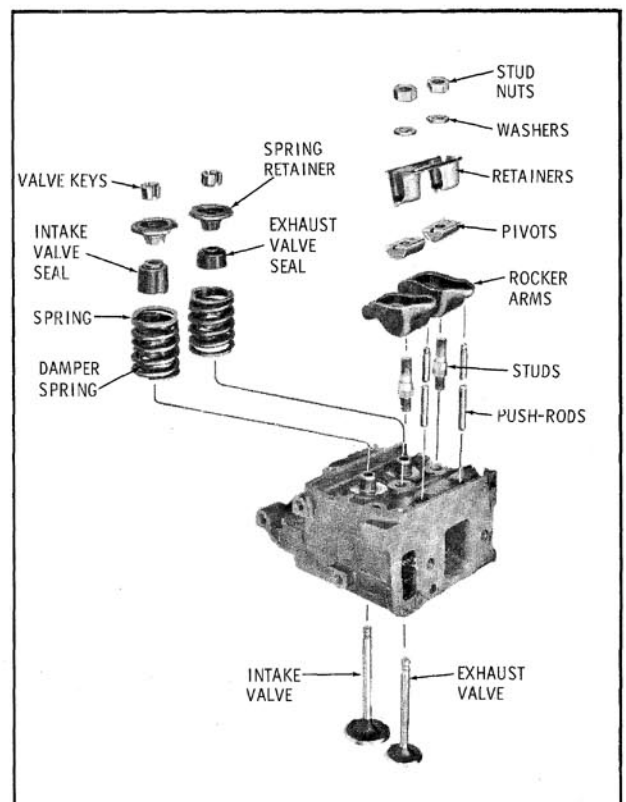

Fig. 3-63 Cylinder Head - Exploded View
3. Position rocker arms, pivots, lock plates, washers and nuts on cylinder head as shown in Fig. 3-63.
3. Remove valve spring retainers and springs. (Fig. 3-63)